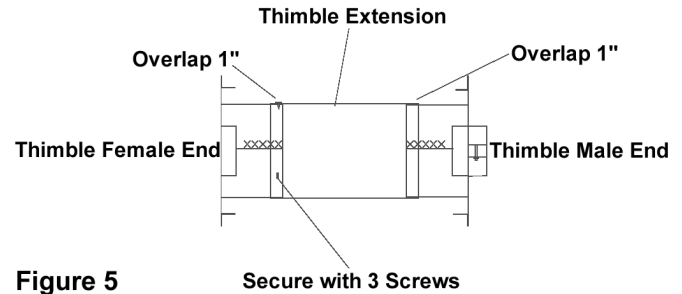

Figure 5
- 2.5 A wall thimble must be used when the vent passes through a combustible wall. The thimble splits into two sections. Install the section with the support clamp from inside the building. Install the other section from outside the building. Fasten the thimble to the wall with nails or screws at the thimble's corners. The wall thimble is to be used on walls ranging in width from 5" to 9". If a wall 9" to 18" (maximum) in thickness is to be passed through, it is permissible to field fabricate a wall thimble extension of galvanized sheet metal of 26-gauge. See Figure 5. The extension can be trimmed so that it overlaps each of the thimble sleeves by at least 1". It is to be attached to the female end (noncrimped) of the THIMBLE with three (3) sheet metal screws. Proceed with the installation as described above.